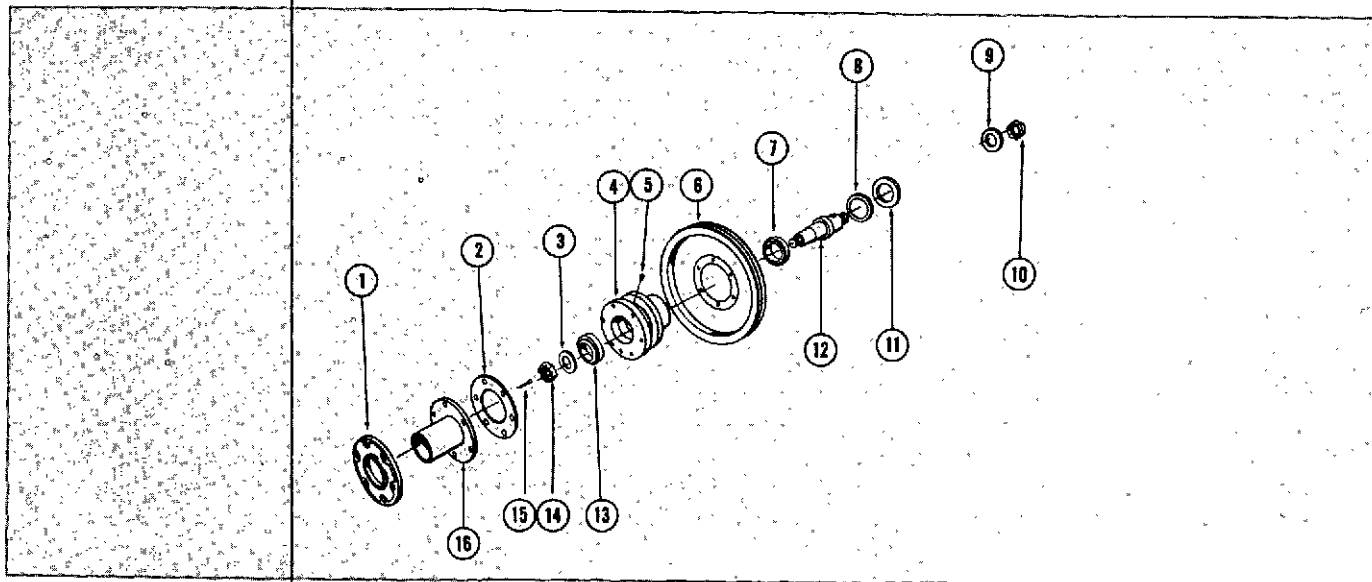

Fig. 8-2-1, V40813. Fan Hub assembly
1. Remove capscrews and washers from fan plate (1, Fig. 8-2-1); remove plate, pilot (16) and gasket (2).
2. Remove cotter pin (15), nut (14) and washer (3).
3. Press shaft (12) from fan hub (4).
4. Remove seal (8) from hub.
5. Press bearings (7) and (13) from fan hub shaft.
6. Remove pulley (6) from hub if either part is damaged.
7. Remove grease plugs (5) from hub.